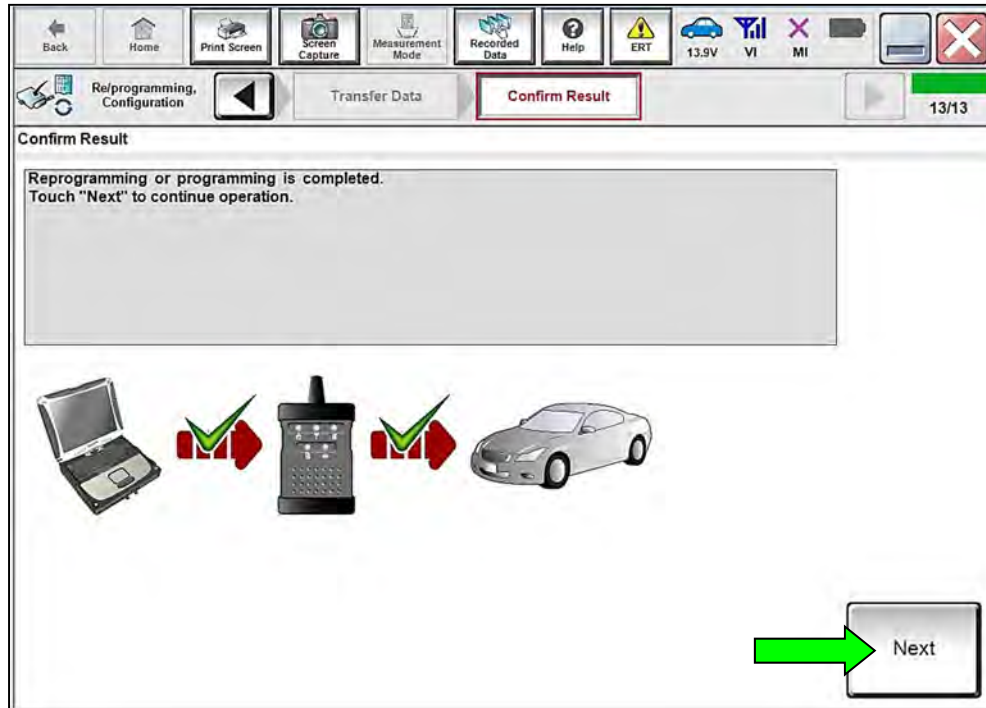

Figure 153
- If the screen in Figure 153 does not display (indicating that reprogramming did not complete), refer to the information on page 53.